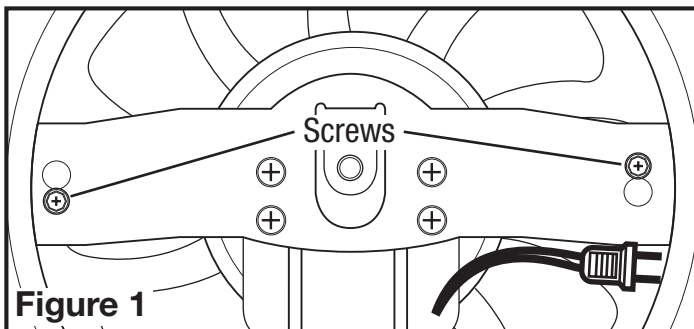

Figure 1
2. Remove the motor bracket assembly from the fan housing by loosening the two screws which secure the bracket in place (**Figure 1**).